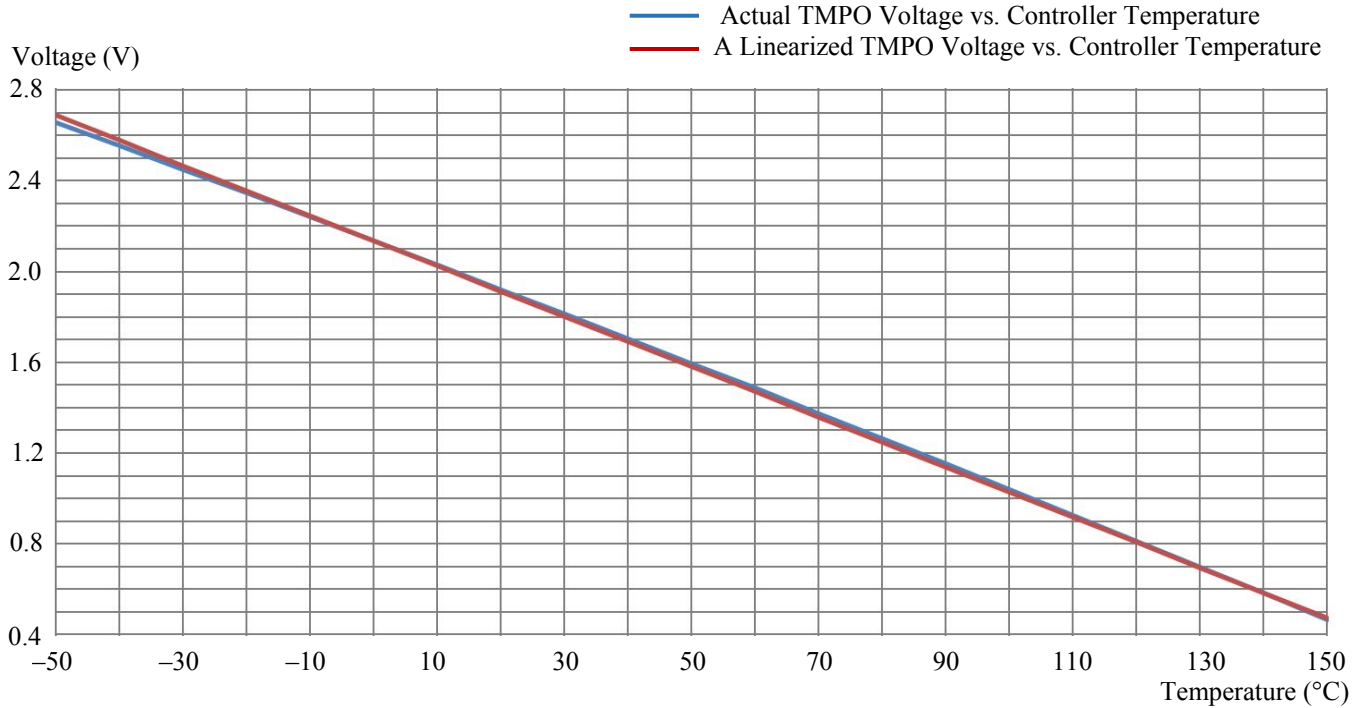

Figure 11. Controller Internal Temperature vs. TMPO Voltage
calculated data by using the formula (1) and the approximated data obtained by using the linear equation (2) is about 0.4°C, with the linear data being a little lower. The curves of the 2 sets of the data are plotted in Figure 11.